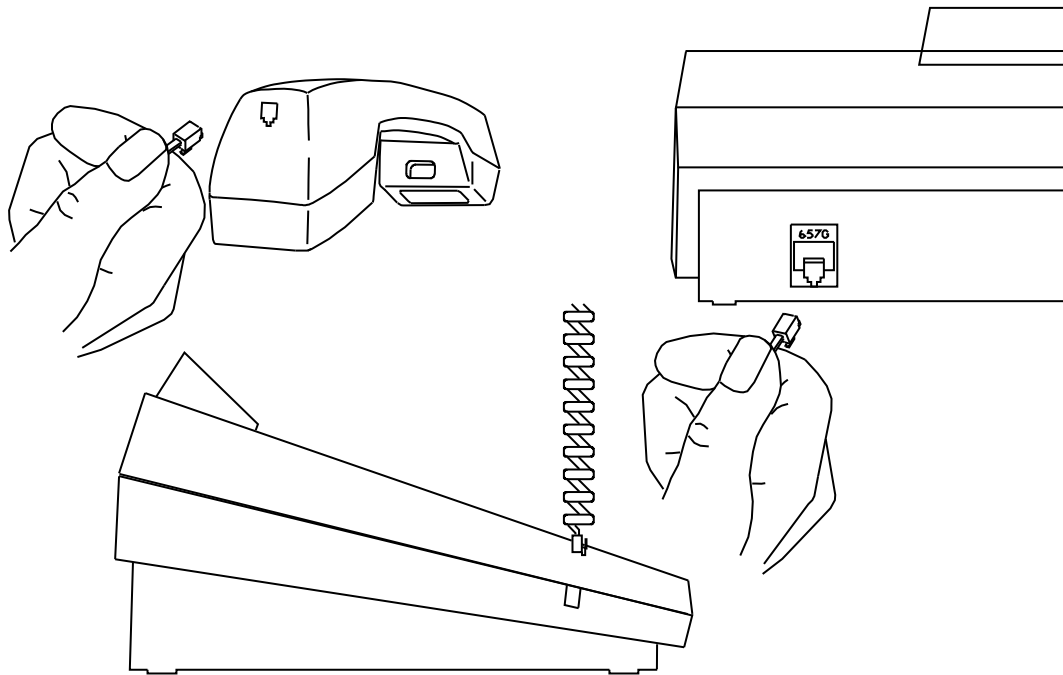

FIGURE 5-13. Connecting the Cords on the 6508 Telephone
Refer to Figure 5-13 for connecting the cords.
2. Plug one end of the line cord into the Line jack on the back of the telephone. See Figure 5-13.
3. Plug the free end of the handset cord into the bottom of the handset. See Figure 5-13. Place the handset in the cradle.